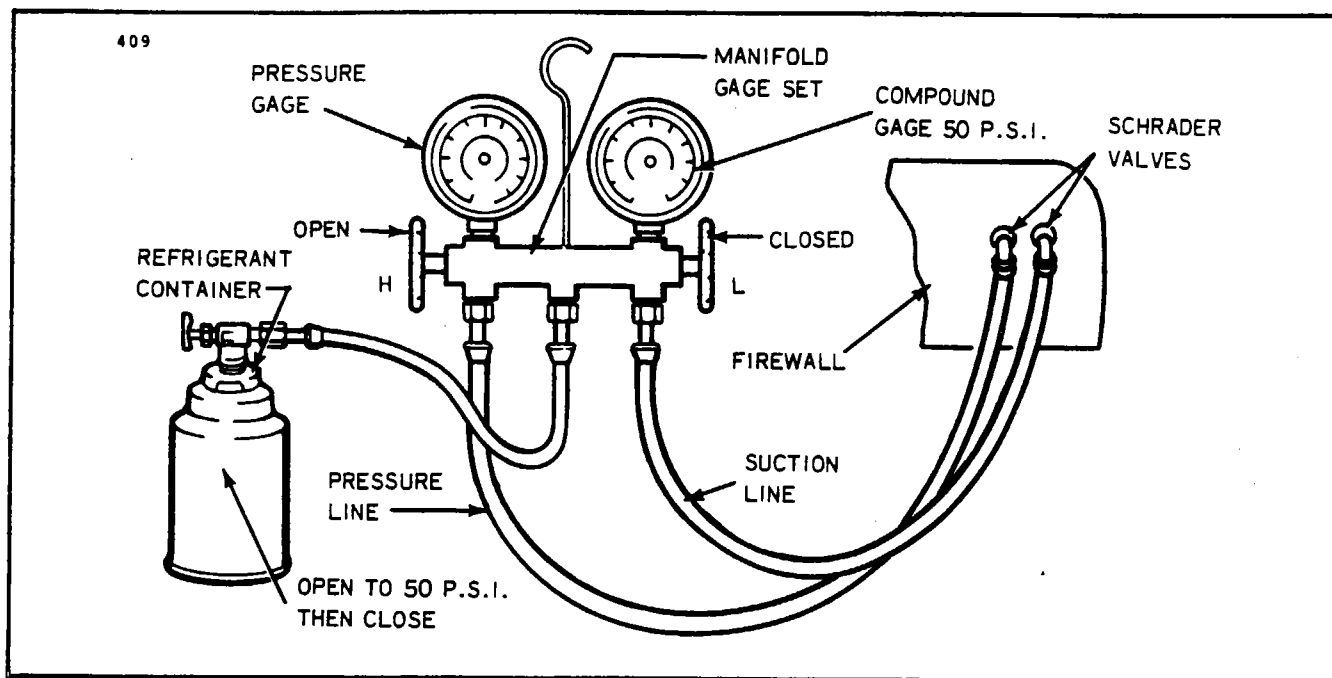

Figure 14-30. Leak Test Hookup
- a. The most accurate way to check the condition of the system is by attaching gauges to the system as shown in Figure 14-30.
- a. Connect the manifold gauge, set into the system and determine if there is any refrigerant in the system. A minimum of 50 psi refrigerant pressure in the system is needed for leak detection. (Refer to Figure 14-30.)